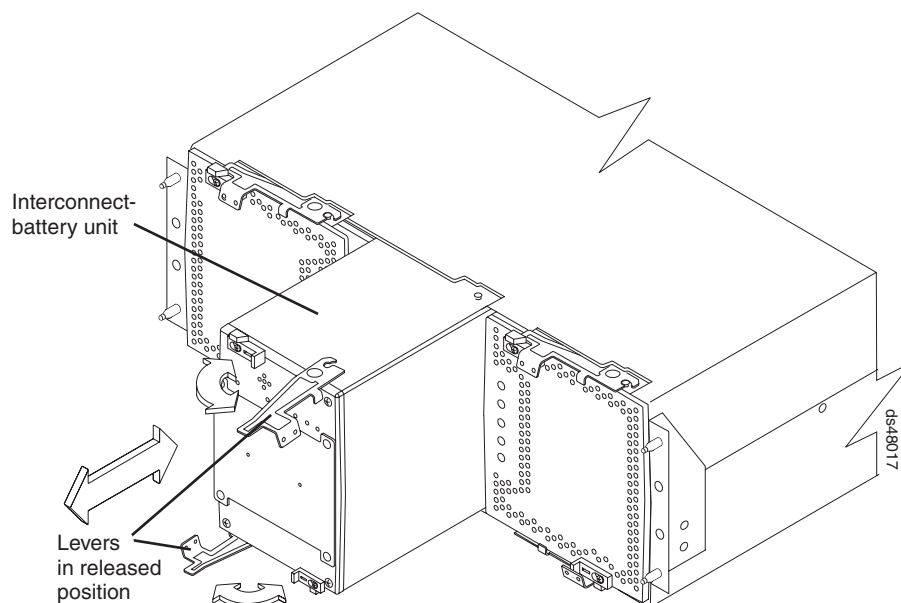

Figure 97. Removing an interconnect-battery unit from the DS4800
7. Unlatch both the top and bottom levers of the interconnect-battery unit and rotate both levers straight out simultaneously to remove the failed interconnect-battery unit. (Figure 97 on page 161 shows the interconnect-battery unit sliding from the storage subsystem chassis.)